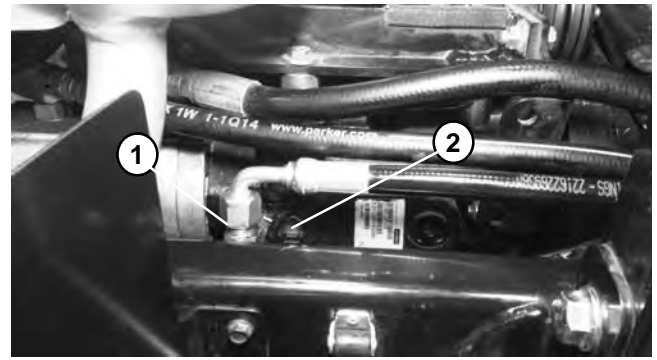

Figure 22
4. Disconnect the hydraulic hose at the piston pump/hydrostat fitting just to the rear of the tow valve. This hose comes from the steering control valve (T) port (Fig. 22).